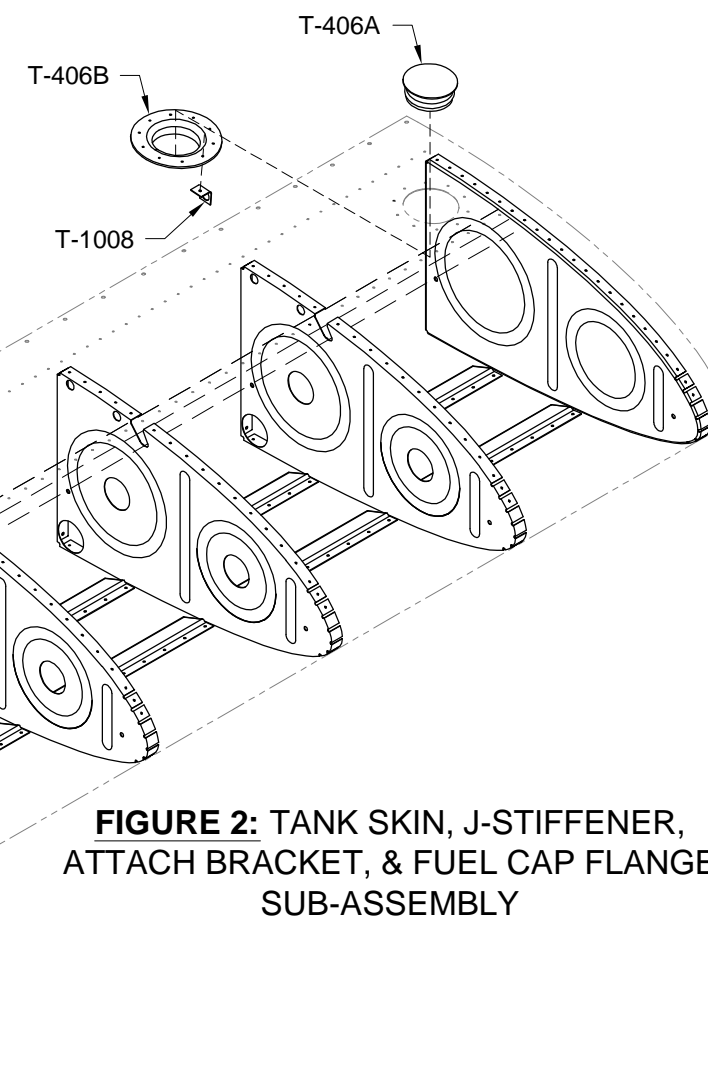

FIGURE 2: TANK SKIN, J-STIFFENER,
Step 4: Fit and drill the T-406B Fuel Cap Flange and T-1008 Vent Clip to the T-1001-L Tank Skin as shown in Figure 2. Use the T-406A Fuel Cap as a guide for centering the fuel cap flange in the tank skin opening.